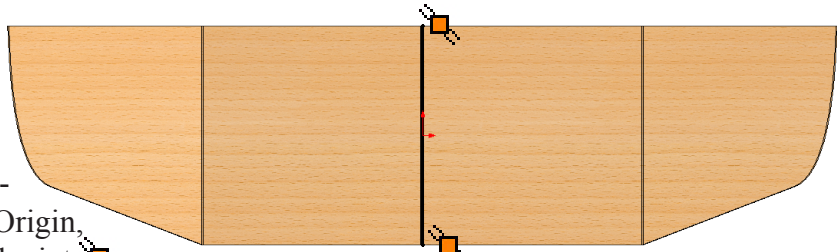

Fig. 26
Step 4. Draw the vertical line (centerline) down through the Origin, **Fig. 26**. Start from the Midpoint of edge.